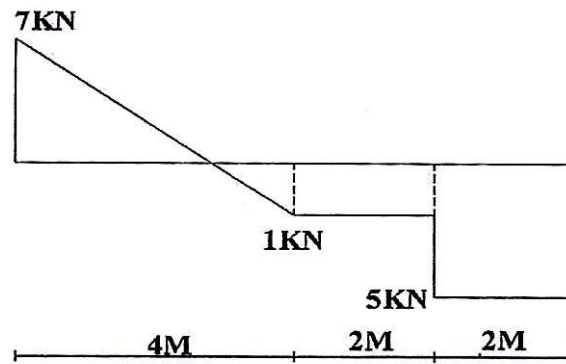

Fig. 8
- (b) Draw the loading diagram and bending moment diagram from the given shear force diagram on the beam. (Refer Fig. 8): [6]